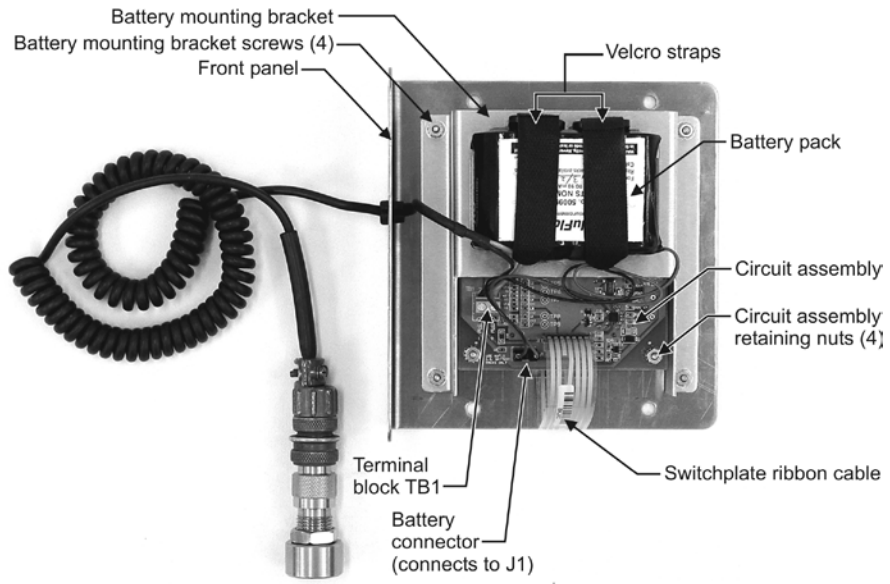

Figure 3—Alkaline battery pack replacement
3. Loosen the four large Philips screws on the top and bottom edge of the front panel and remove the front panel. The battery should now be exposed for servicing (Figure 3).
14. Reconnect the battery connector to J1 (see Figure 3, page 16), observing proper polarity.
4. Disconnect the alkaline battery pack from the circuit assembly (see Figure 3, page 16).
11. Reconnect the battery connector to J1 (see Figure 3, page 16), observing proper polarity.